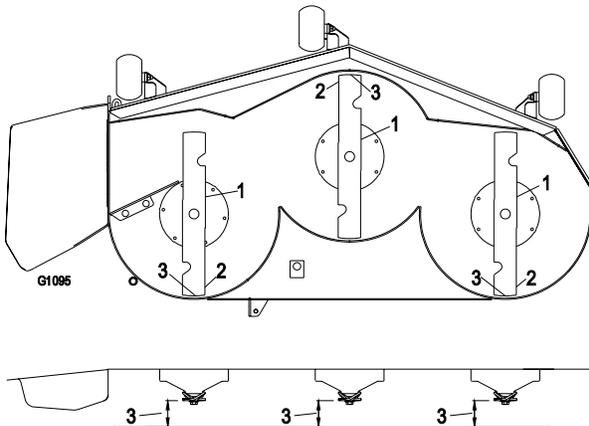

Figure 43
8. Carefully rotate the blades so they are facing front to rear (Figure 43).
9. Measure from the tip of the front blade to the flat surface and the tip of the rear blade to the flat surface (Figure 43). If the front blade tip is not 1/16-5/16 inch (1.6-7.9 mm) lower than the rear blade tip, adjust the front deck hanger.